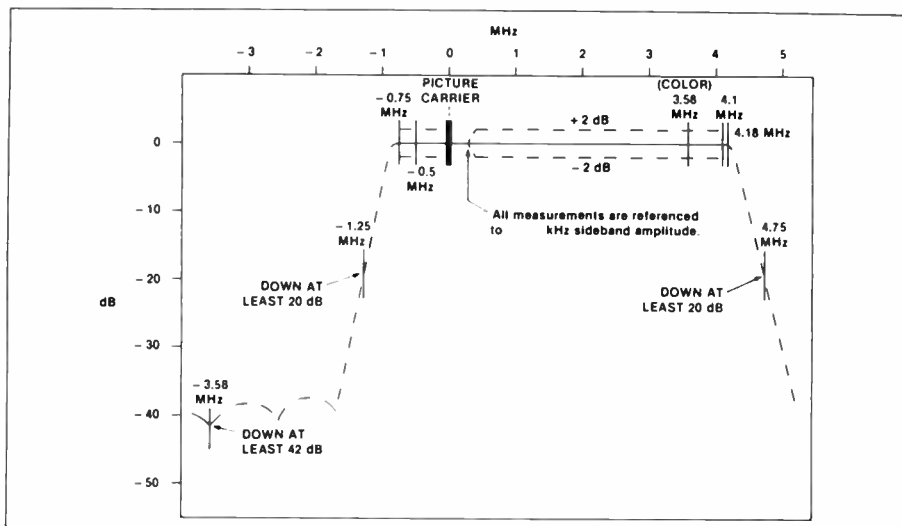
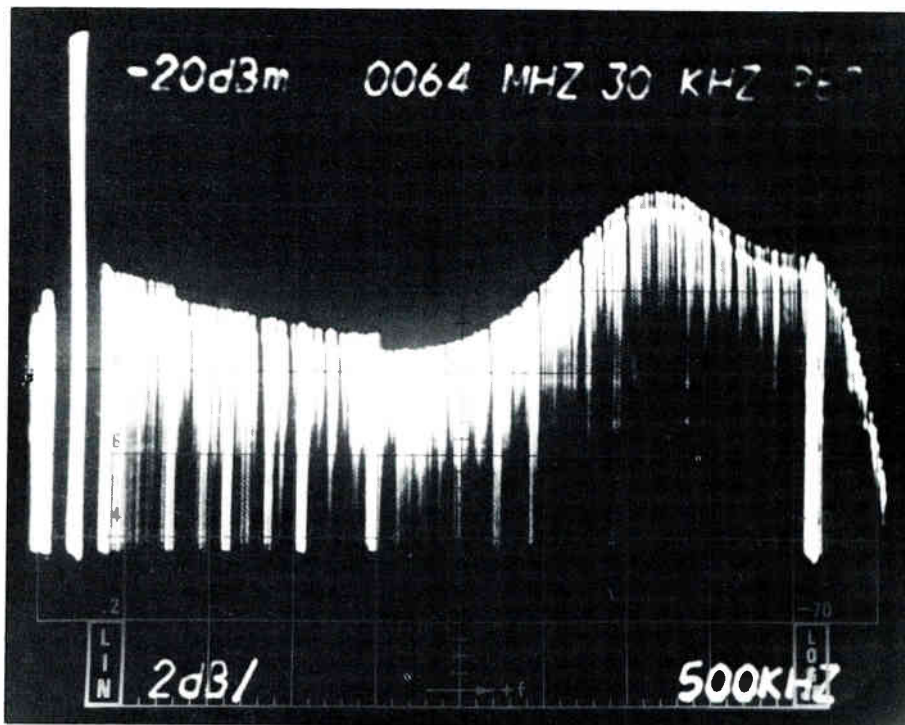

Figure 7-5 Idealized NTSC color transmitter response
Figure 7-6 2 dB/DIV swept modulator response
5. Check the modulator's response with respect to figure 7-5.
6. Turn off the analyzer's storage. Select 2 dB/DIV and 500 kHz/DIV. With the generator tuned to a frequency of about 1 MHz, increase the analyzer's IF gain until the generator's signal appears on the screen. Turn on the analyzer's storage and sweep the generator's frequency again. Verify this response (figure 7-6) with respect to figure 7-5.